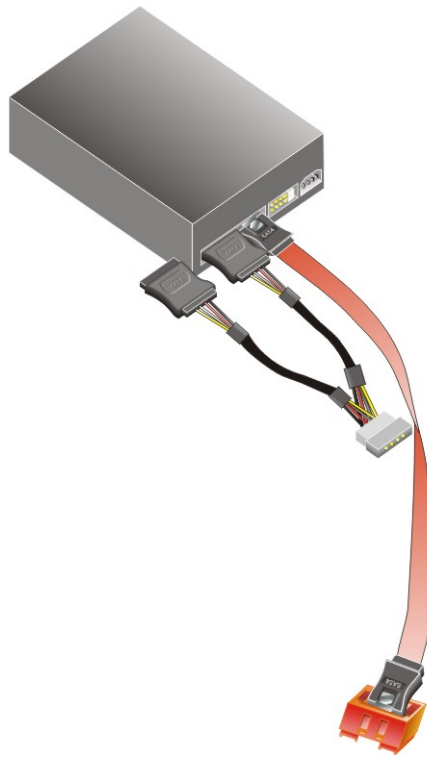

**Figure 5-10: SATA Drive Cable Connection**
**Step 2: Insert the cable connector.** Press the clip on the connector at the end of the SATA cable and insert the cable connector into the onboard SATA drive connector. See **Figure 5-10**.